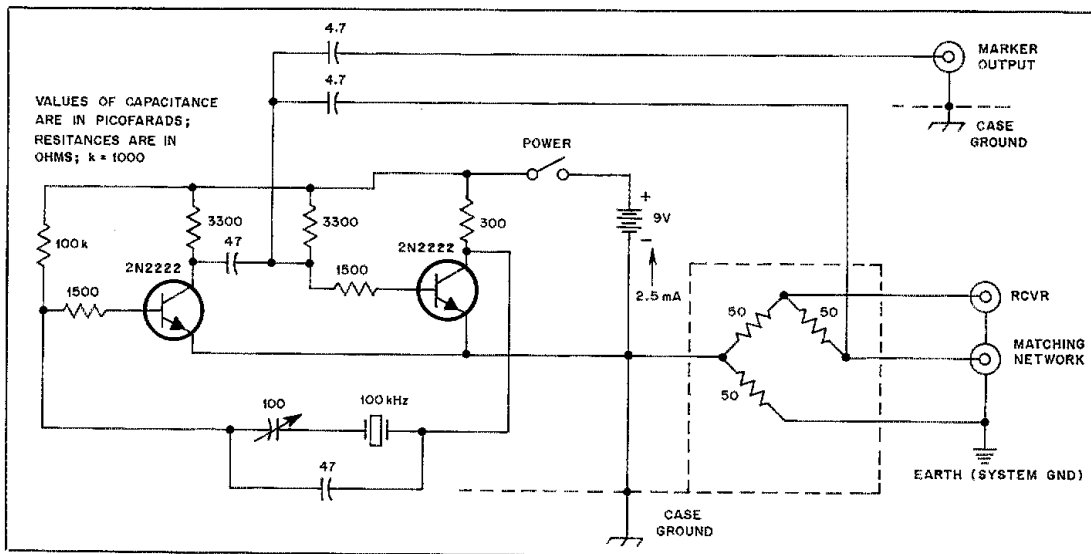

Fig. 2 — The "QRT" antenna-impedance matching instrument of N3BEK.
□ Doug DeMaw's article in April 1979 QST, "The Whys and Hows of Bifilar Filament Chokes," arrived just in time when I was constructing an 811A grounded-grid linear amplifier. What interested me was the 1:4 broadband input matching transformer shown in Fig. 2 of Doug's article ("Feedback," May 1979 QST). This simple device, used to match the 50-ohm output impedance of a typical grounded-grid linear amplifier, had totally escaped my attention until I noticed it in W1FB's article. I immediately set about designing this black box. Since I could not obtain a toroid core, I decided to stay with a ferrite rod.
The schematic diagram of the combined marker generator/rf bridge is shown in Fig. 2. In my design, the entire unit is housed in a single pc-board enclosure; the bridge is shielded from the generator. Note that the generator ground and case are isolated from the bridge, and that the bridge ground is connected to the antenna-system ground. While not essential, a separate marker output has been included to provide a strong marker signal for other uses.